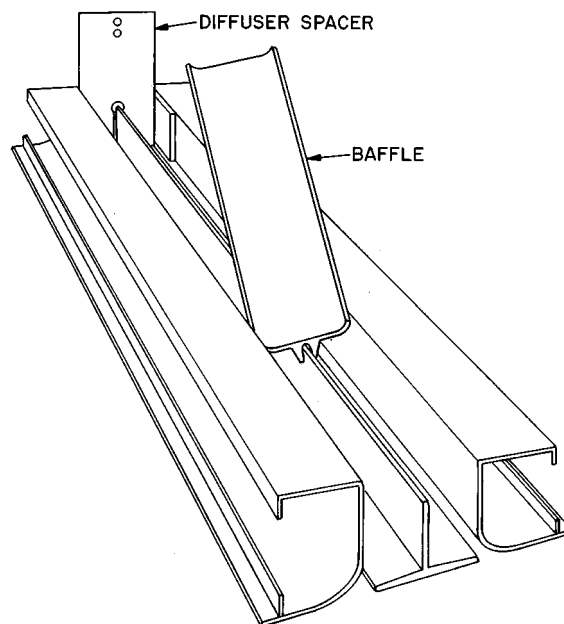

Fig. 14 — Diffuser Baffle Assembly
3. Push the diffuser baffle into the space between side diffusers and down onto the center diffuser at the end away from the unit. Then push down the end close to the unit. The baffle will form around the legs of the diffuser spacer and lock onto the center diffuser. See Fig. 14. Baffle should fill space between side diffusers between unit end and thermostat.